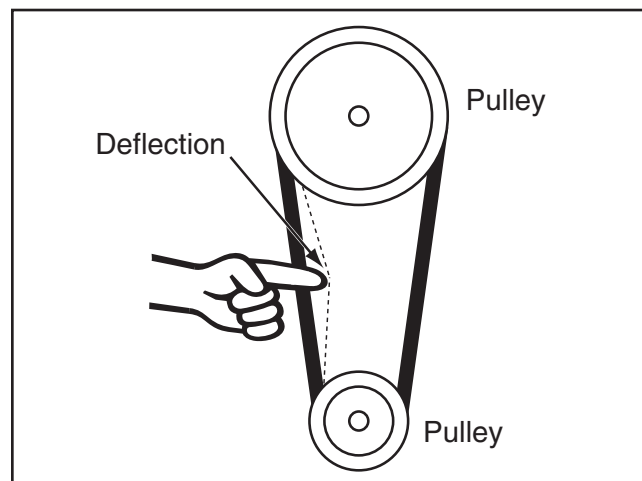

Figure 42. Checking for correct V-belt tension.
4. Push the center of each V-belt as illustrated in **Figure 42**, using moderate force. When tensioned correctly, the deflection should be about 3/4".